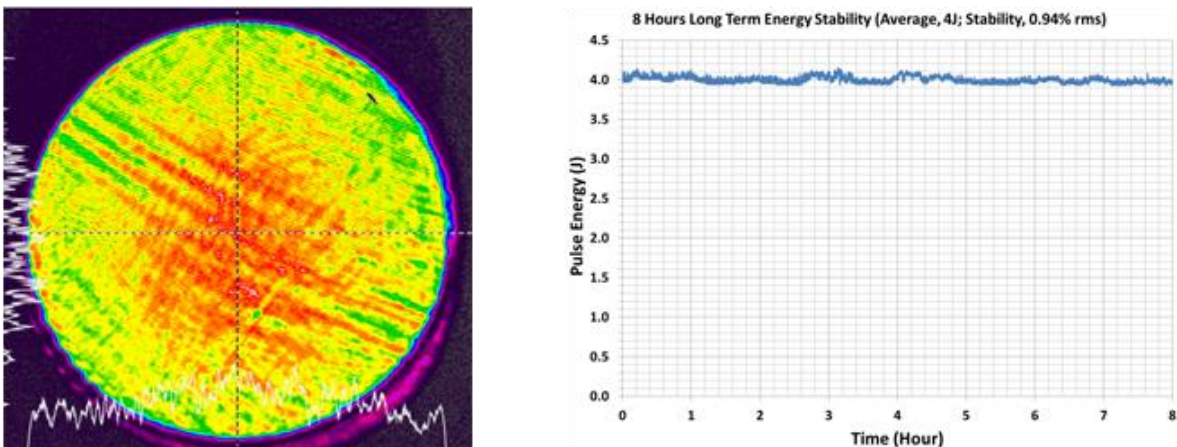

Figure 12: 4 Joule / 527 nm / 10 Hz Nd:YLF DPSS laser flat top beam profile and long term energy stability plot.
CEO also offers a short pulse, high energy Q-switched green laser system for pumping Ti:sapphire at repetition rates from 10-100 Hz. The Gigashot flat-top (FT) produces 160 mJ, 10 ns pulses at 100 Hz, 532 nm. This laser system is designed as a MOPA configuration (Master Oscillator, Power Amplifier) which can be seeded as well as amplified to >5 J (green) at 10 Hz with the addition of CEO's REA amplifier modules (See Figure 12 for more information). The Gigashot-FT family is available in both YAG (532 nm) and YLF (527 nm) configurations. Additional repetition rates and pulse energies are available within a broad range of 10s of Hz to 100s of Hz. UV output (355 nm or 351 nm) is an additional option. The Gigashot-FT won the 2015 Lasers Focus World innovation award in the lasers and sources category. More information on the award can be found here: <http://cuttingedgeoptronics.com/2015/05/01/lasers-and-sources-innovation-award-video/>